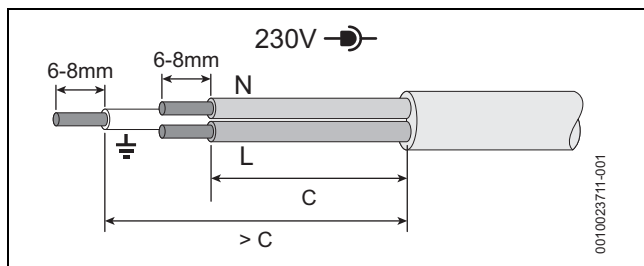

Fig. 58 Mains voltage (power cables) preparation
**230V mains cable (power cables), example → figure 58**
- ▶ Ensure the conductors (C) can reach the appropriate terminal connection and that the protective (earth) conductor is longer than the other wires.